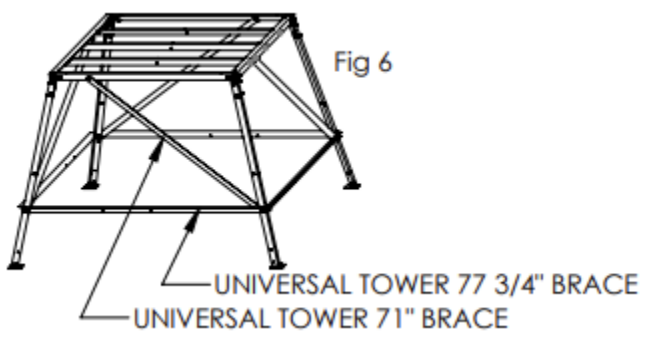

Fig 6
7. Attach 71" brace to the base on the narrow side using 1 - 3/8" x 1" bolt & 1 - 3/8" nylon lock nut using the same sequence as step 4. Repeat on opposite side of base. Do not tighten these at this time. (Fig 6)
8. Attach 77 3/4" brace and the free end of 71" brace from step 7 to the leg using the same sequence as step 5. Repeat on opposite side of base. Do not tighten at this time. (Fig 6)
9. Attach the free end of 77 3/4" horizontal brace from step 8 to opposite leg. (Fig 6)